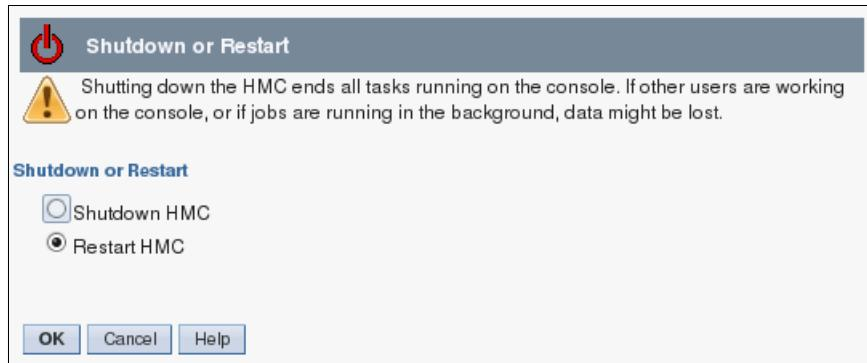

Figure 3-111 Restart the HMC
40.Confirm to restart the HMC by selecting **Restart HMC** and clicking **OK** (Figure 3-111).